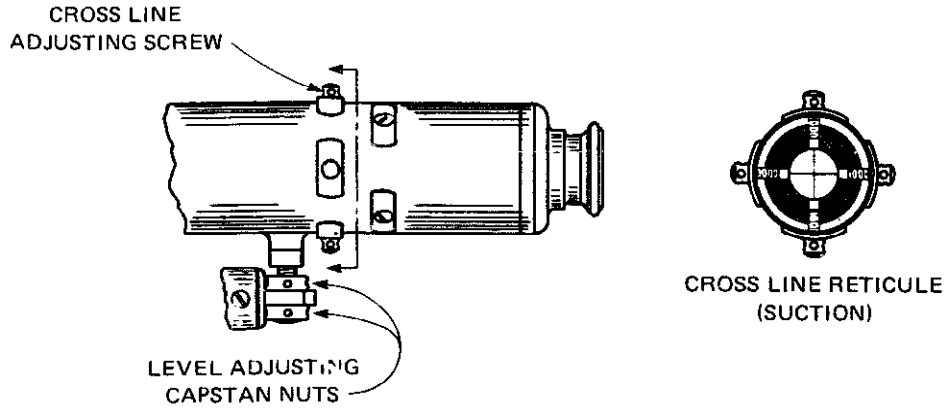

Fig. 5-46 Adjusting the telescope level.
- a. Estimate where the bubble would stand if half the error were eliminated. With the adjusting pin, loosen the two capstan nuts at the eyepiece end of the bubble tube (figure 5-46).
The cross lines are mounted on a ring or reticule which is held in place by four capstan headed screws threaded to the reticule. See figure 5-46. The positions of the lines determine the direction of the line of sight. To make it point further upward, for example, the cross lines must be lowered, and therefore moved in the opposite direction to that which would normally be expected.